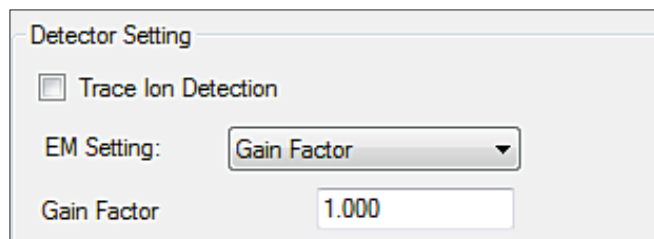

Figure 1. Detector setting.
- Under optimized GC conditions (for example, injector parameters, GC oven program, and so forth) and MS parameters (for example, scan range, or SIM ions, and so forth) for the analysis, set the GAIN FACTOR = 1 and acquire the highest concentration standard (Figure 1).